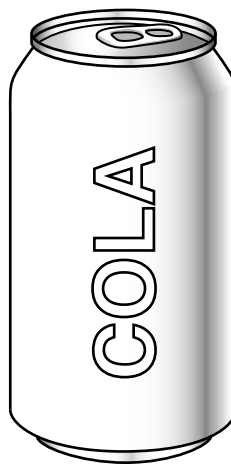

Fig. 4
- 9 Fig. 4 shows an aluminium drinks can.